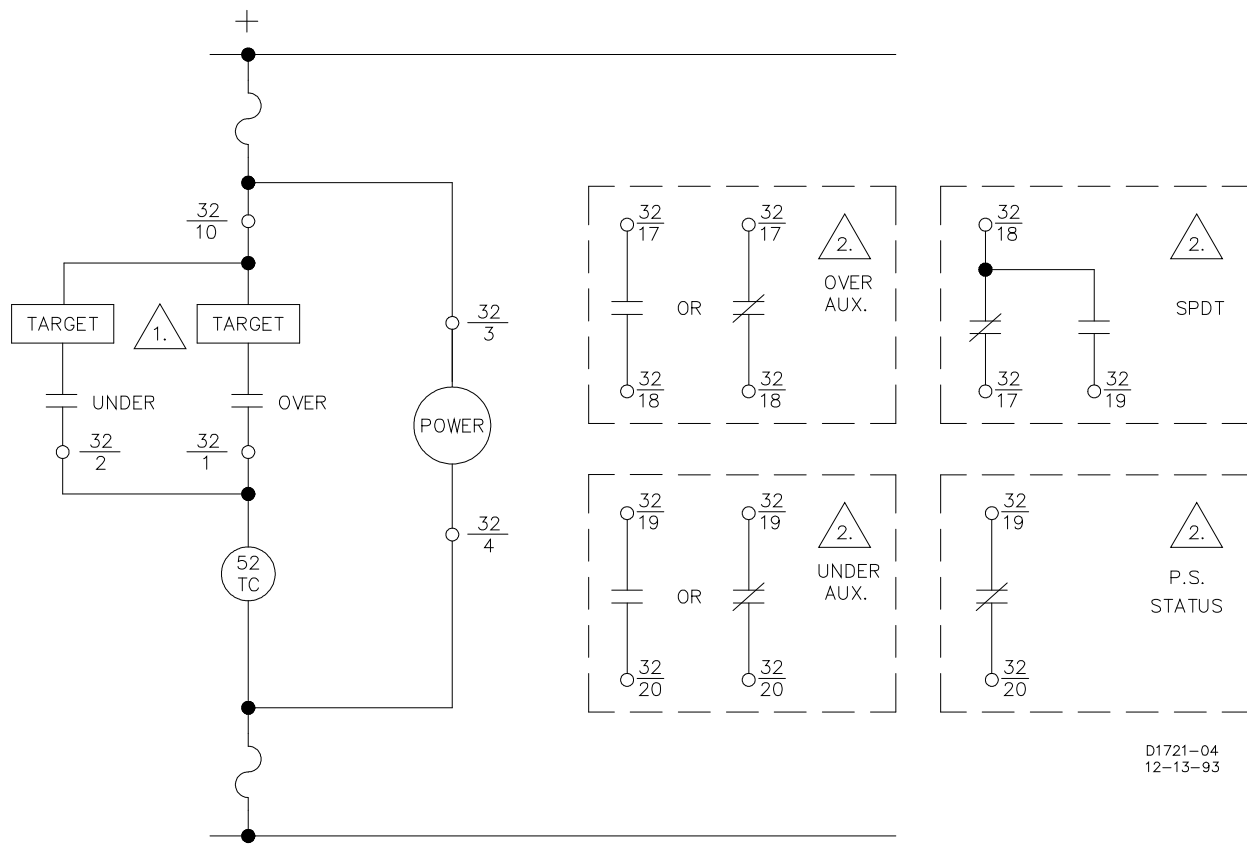

Figure 4-20. Control Circuit Diagram
- Control circuit connections: Figure 4-20
Notes for Figure 4-20